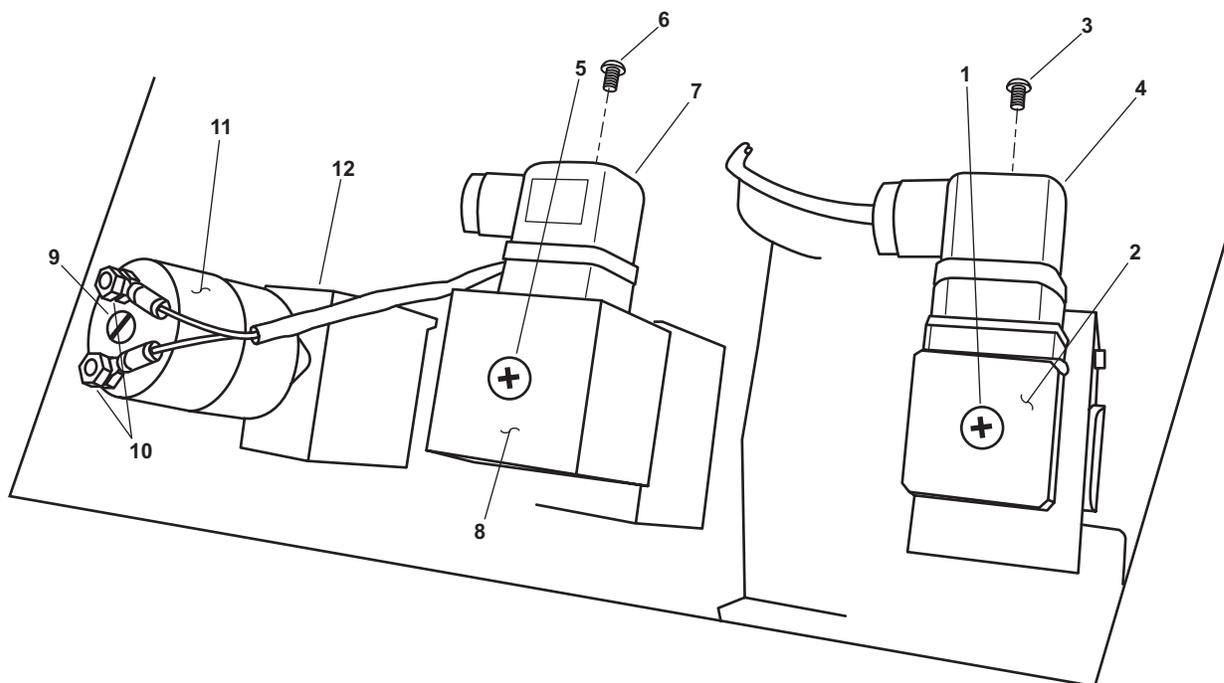

Figure 6. Flow Control Panel, Top View
6. Rotate the high pressure cutoff switch adjustment screw (figure 6, item 1) on top of the high pressure cutout switch (figure 6, item 2) no more than of 1/8th of a turn counterclockwise.
- a. Rotate the high pressure cutoff switch adjustment screw (figure 6, item 1) clockwise no more than 1/8th of a turn.
5. Remove the screw (figure 6, item 3) that secures the wire plug (figure 6, item 4) to the high pressure cutoff switch (figure 6, item 2).
6. Pull the wire plug (figure 6, item 4) straight off of the high pressure cutoff switch (figure 6, item 2).
7. Unscrew the high pressure cutoff switch (figure 6, item 2), and remove it from the SYSTEM OPERATION PRESSURE gauge (figure 4, item 9).
1. Place four wraps of antiseizing tape on the male threads of the high pressure cutoff switch (figure 6, item 2).
2. Thread the high pressure cutoff switch (figure 6, item 2) into the fitting on the back of the SYSTEM OPERATION PRESSURE gauge (figure 4, item 9). Tighten hand tight only, using no tools.
3. Slide the wire plug (figure 6, item 4) into place on the high pressure cutoff switch (figure 6, item 2), and secure it in place with the screw (figure 6, item 3).
- b. Rotate the low pressure cutoff switch adjustment screw (figure 6, item 5) a maximum of 1/8th of a turn clockwise.
- a. Rotate the low pressure cutoff switch adjustment screw (figure 6, item 5) a maximum of 1/8th of a turn counterclockwise.
5. Remove the screw (figure 6, item 6) that secures the wire plug (figure 6, item 7) to the low pressure cutoff switch (figure 6, item 8).
6. Pull the wire plug (figure 6, item 7) straight off the low pressure cutoff switch (figure 6, item 8).
7. Unscrew the low pressure cutoff switch (figure 6, item 8), and remove it from the HIGH PRESSURE PUMP INLET pressure gauge (figure 4, item 10).
1. Place four wraps of antiseizing tape on the male threads of the low pressure cutoff switch (figure 6, item 8).
2. Thread the low pressure cutoff switch (figure 6, item 8) into the fitting on the back of the HIGH PRESSURE PUMP INLET gauge (figure 4, item 10). Tighten hand tight only, using no tools.
3. Slide the wire plug (figure 6, item 7) into place on the low pressure cutoff switch (figure 6, item 8), and secure it in place with the screw (figure 6, item 6).
- a. Rotate the brine valve misalignment shutdown switch adjustment screw (figure 6, item 9) a maximum of 1/8th of a turn clockwise.
- a. Rotate the applicable brine valve misalignment shutdown switch adjustment screw (figure 6, item 9) a maximum of 1/8th of a turn counterclockwise.